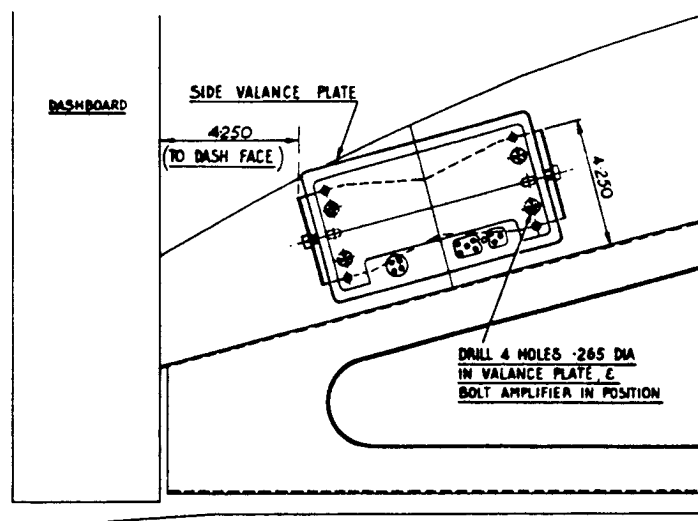

Fig. 15. R.H. CARS.
1. Drill the wing valance and fit the power pack and bracket as shown in the appropriate illustrations. (Figs. 15, 16 and 17).